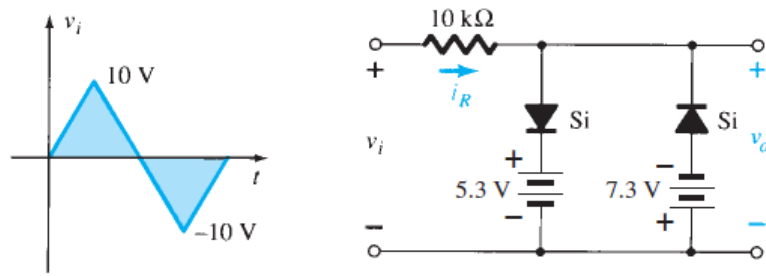

Figure 9.6.1: Response to a double sided clipper.
1. Connect the circuit as shown in Fig. 9.6.1 with certain modifications.